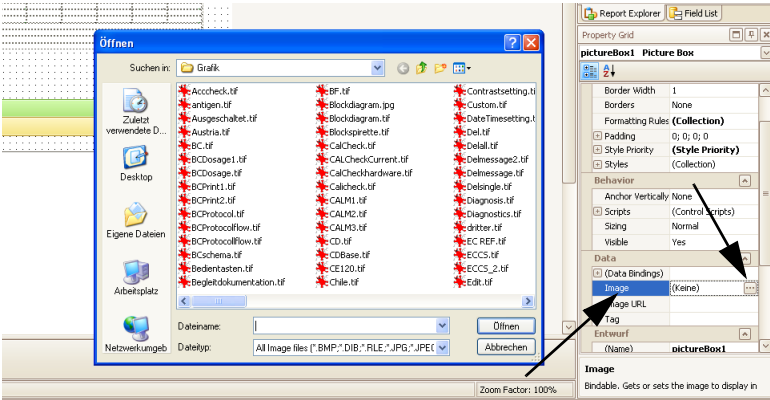

Fig. 10-5: Image button
- Select **Image** and click  to open the Explorer (Fig. 10-5).
- Select the logo. (Fig. 10-5). The logo will appear in the frame.